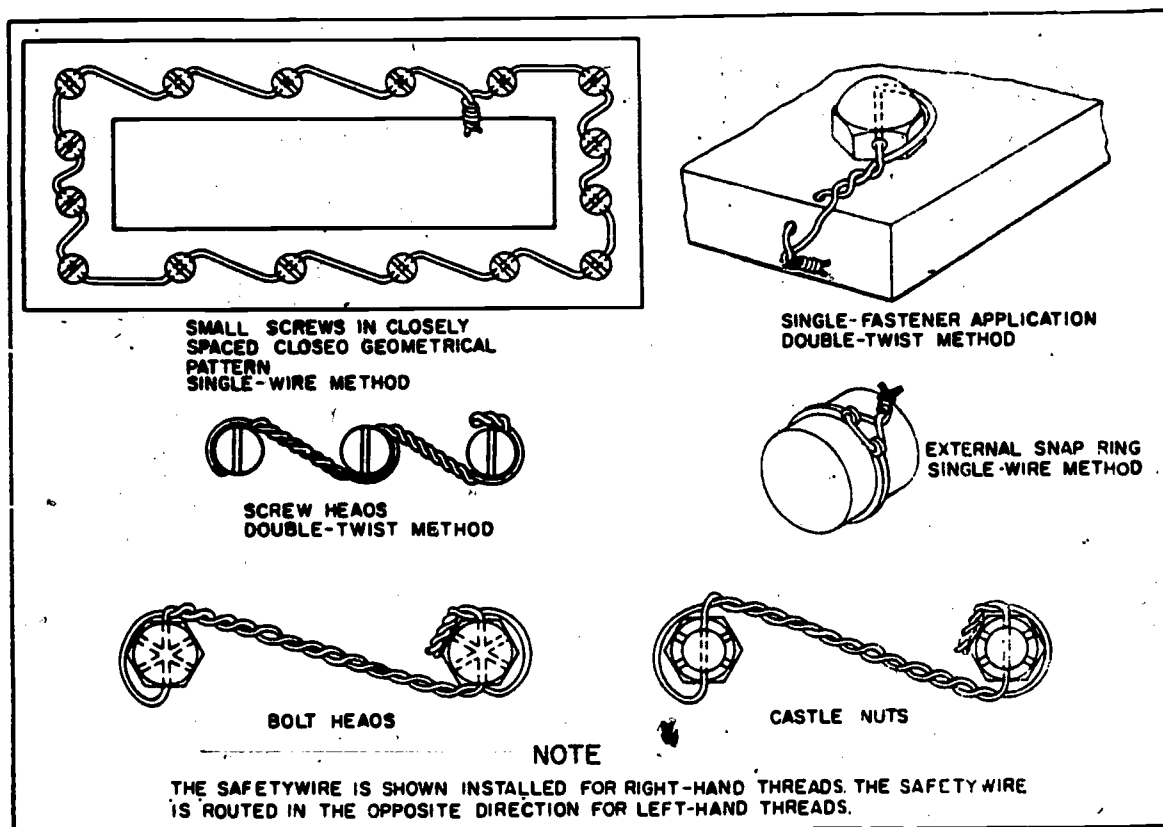

Figure 2-7. - Securing screws, nuts, bolts, and snap rings.
numerous lockwiring operations performed on aircraft hardware, practically all are derived from the basic examples shown in figure 2-7.
(3) Figure 2-7 illustrates typical lockwiring procedures. Although there are